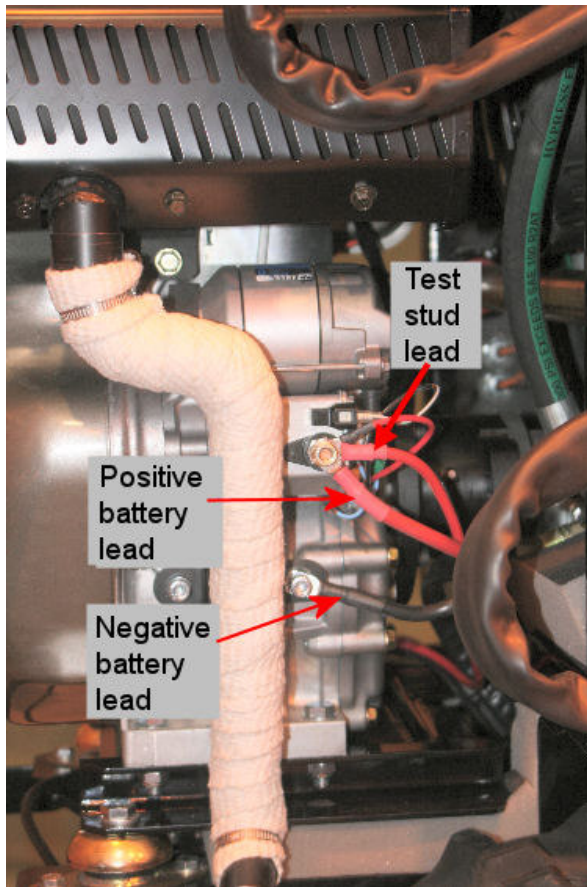

Fig 5-13 Isolate battery
1. Isolate the positive battery lead. Carefully remove the lead from the terminal (Fig 5-13) and insulate it with tape to prevent a short-circuit that would damage the battery.
2. Remove the test stud lead from the terminal (Fig 5-13).
3. Remove the negative battery lead from the bolt securing the exhaust (Fig 5-13).